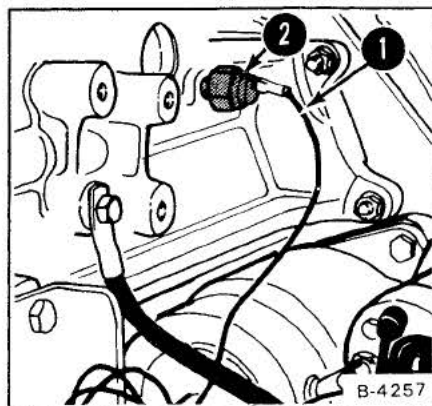

Fig. 51 Temperature Sending Switch
1. Put a funnel under coolant sender switch (Fig. 51, Item 1) to keep coolant from getting into the engine compartment.
4. Remove the wire (Fig. 51, Item 1) connected to the sender switch. Remove the sender switch (Fig. 51, Item 2).